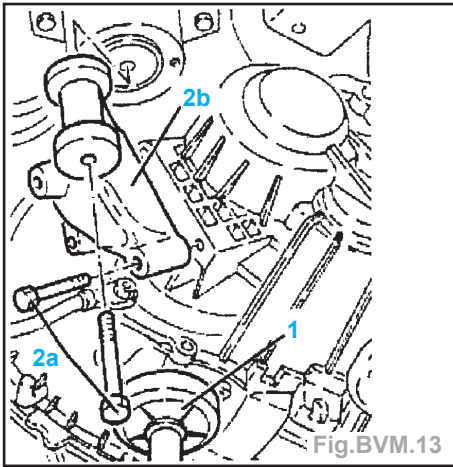

Fig.BVM.13
- Déposer le support (2b) (Fig.BVM.13).